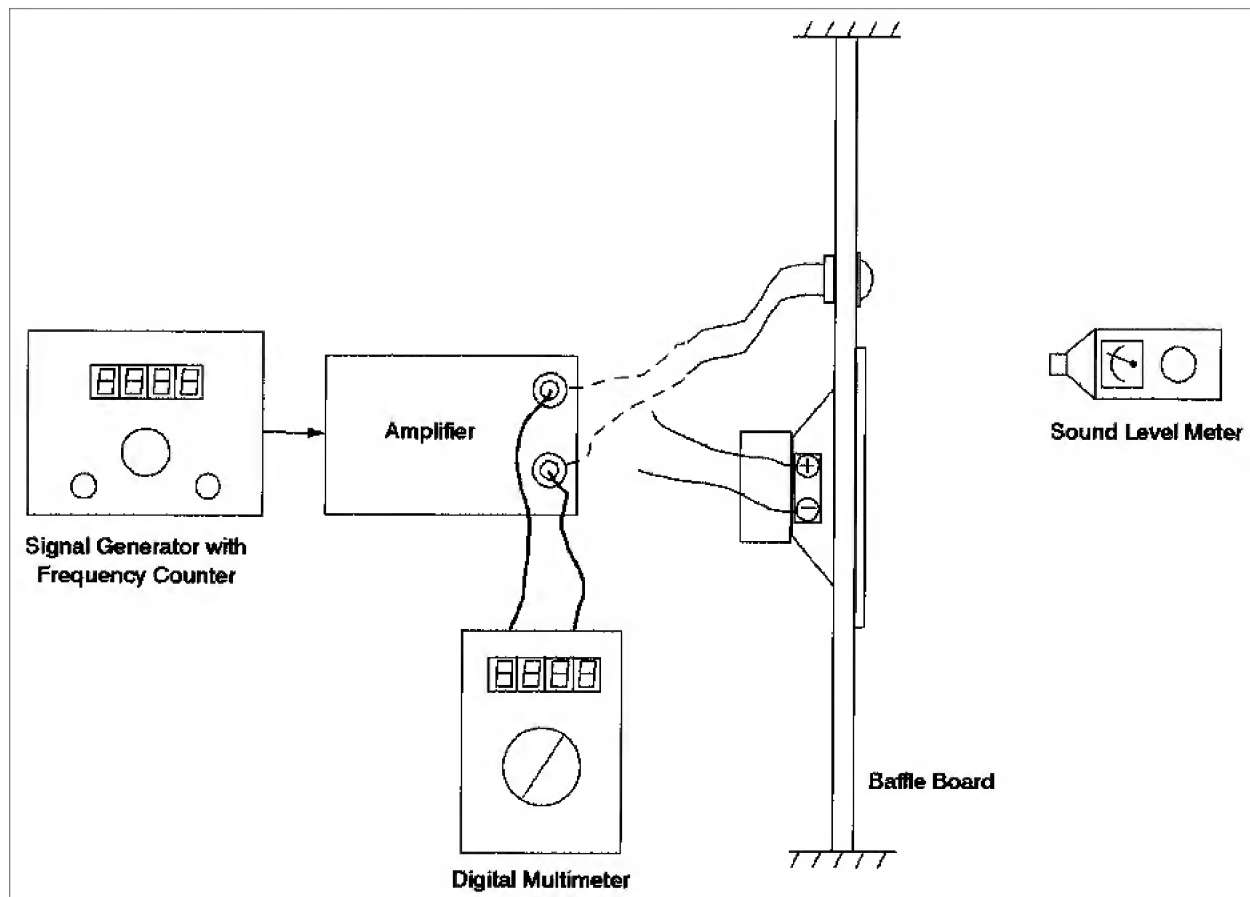

Figure 8-6 Relative sensitivity test setup.
- To generate test signals, you will need a signal generator, an ac voltmeter capable of measuring voltages at several thousand hertz (like the Radio Shack 22-174B), and some type of amplifier. The test setup is shown in Figure 8-6.